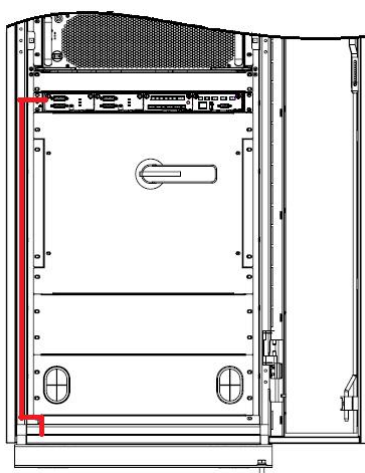
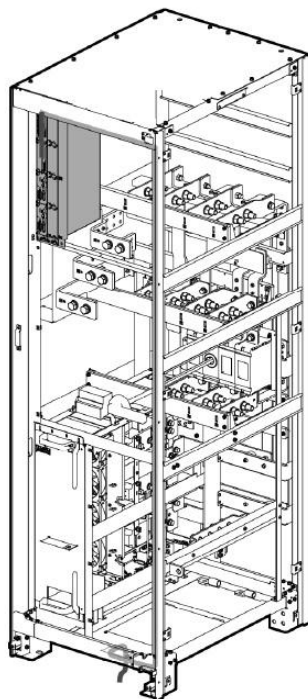

Fig. 2-25 Bottom wiring location and route of control cable (bottom incoming, 300kVA)
Fig. 2-26 Bottom wiring route of control cable (500kVA)
- Install the control power. The cables are tied and fixed on the cabinet. The bottom wiring location and route are shown in Fig. 2-25 and Fig. 2-26.